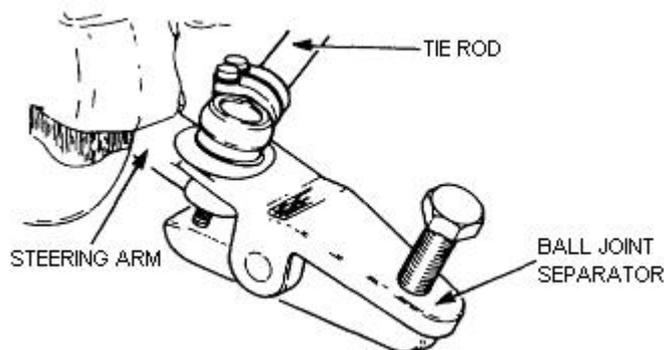

Figure 148 Tie Rod Removal
- g. Using the ball joint separator (Table 3, Serial 13), disconnect the tie rod ball joints at the steering arms (Figure 148).